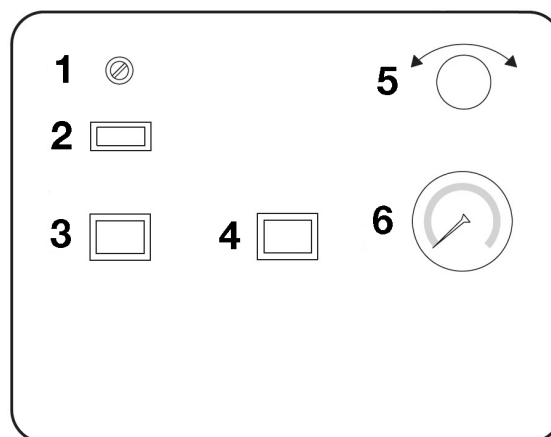

Fig. 2: Front control panel
7. Press switch 3 (Fig. 2) to **ON** position.
8. Then press and hold switch 2 (Fig. 2) to **ON** position.
3. Press switch 4 (Fig. 2) to **ON** position to turn on suction pump.
5. Press switch 4 (Fig. 2) to **OFF** position to turn off suction pump.